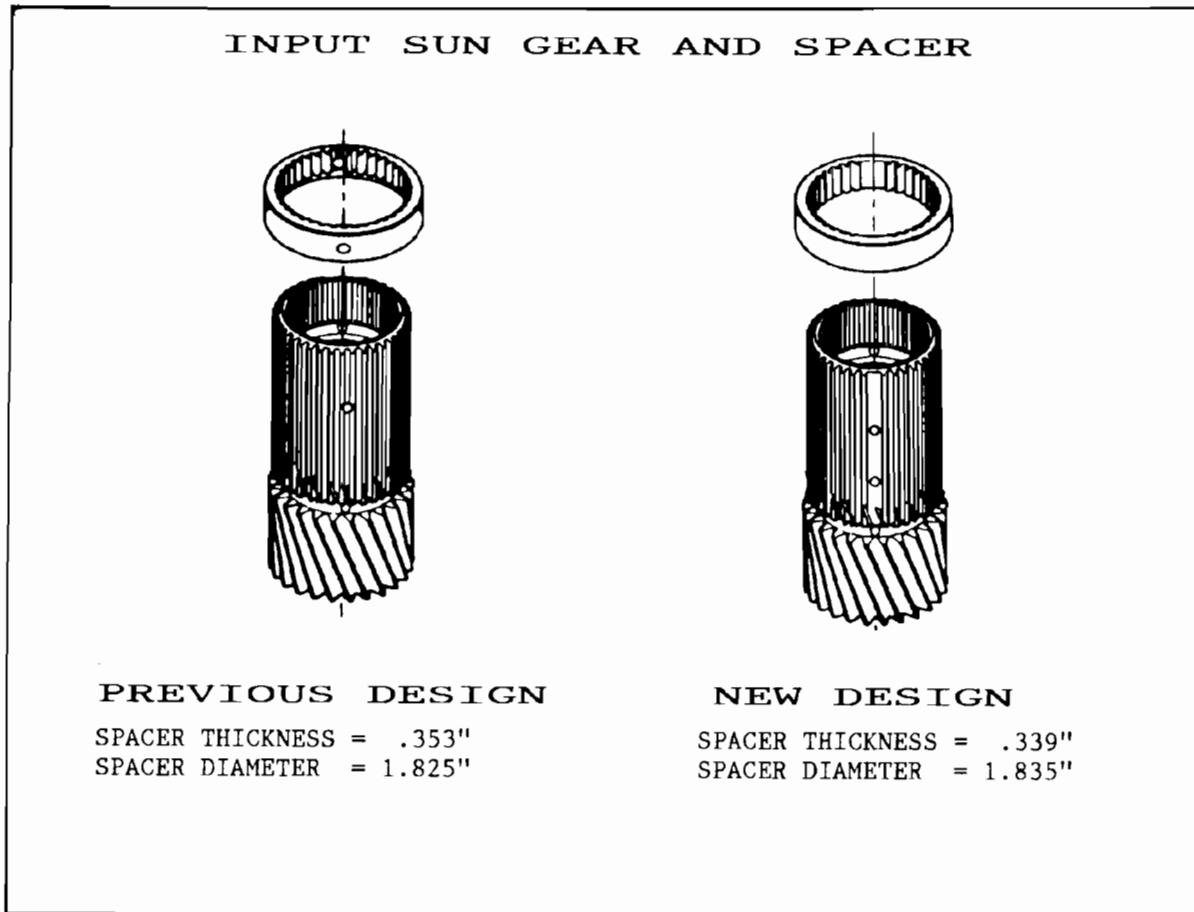

Figure 48
- (2) INPUT SUN GEAR - Now has two "Blind Splines" 180° from one another, to accomodate the new sprag inner race, and insure that the lube holes are aligned (See Figure 48).
- (3) INPUT SUN GEAR SPACER - Revised thickness to accomodate the dimensional changes on the double sprag assembly, and no longer has any lube holes. (See Figure 48).